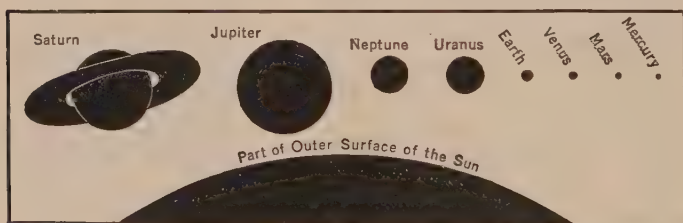

FIGURE 222.—OUR SUN AND ITS PLANETS.
center of the solar system, (3) the velocity of their motion through space, and (4) the length of their orbits (their path about the sun). Each one has (5) a different length of year and (6) of day, (7) different kinds of seasons, (8) a different climate, and (9) a different temperature. Can you explain this? Study the planets named in Figure 222 in the order of their distance from the sun.